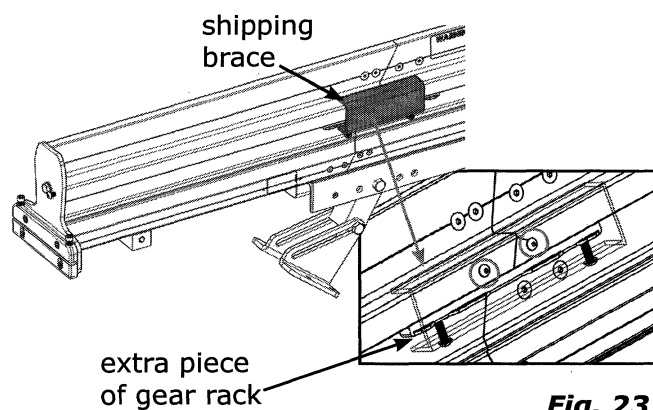

Fig. 23
21. Using a 4mm Allen wrench, remove shipping brace from across folding rail joint [Fig. 23].